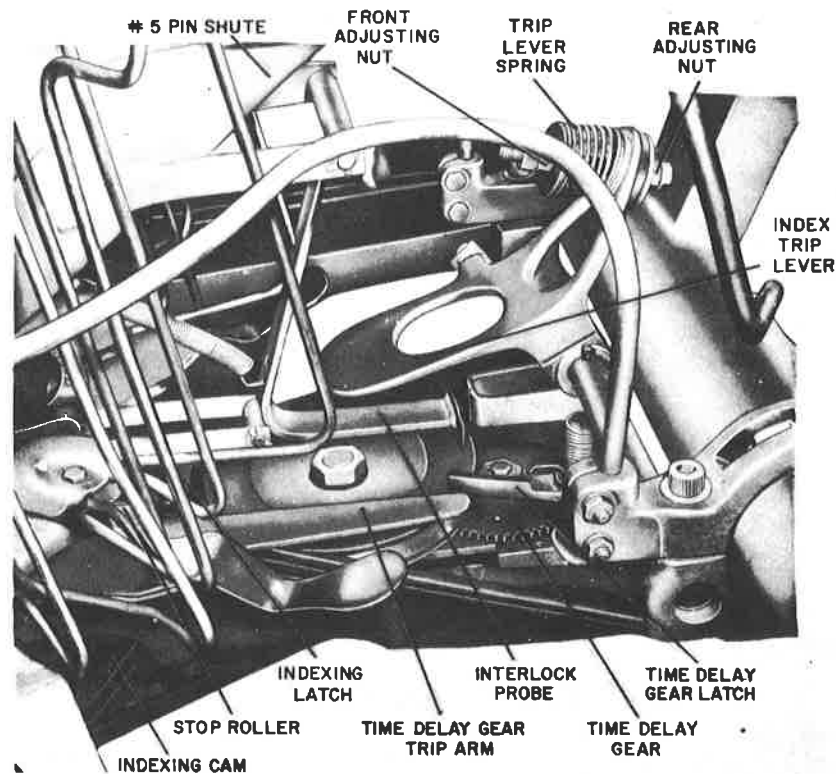

Figure 94. Turret Index Trip Lever Adjustment
42. TURRET TIME DELAY GEAR ADJUSTMENT. (FIGURE 94)